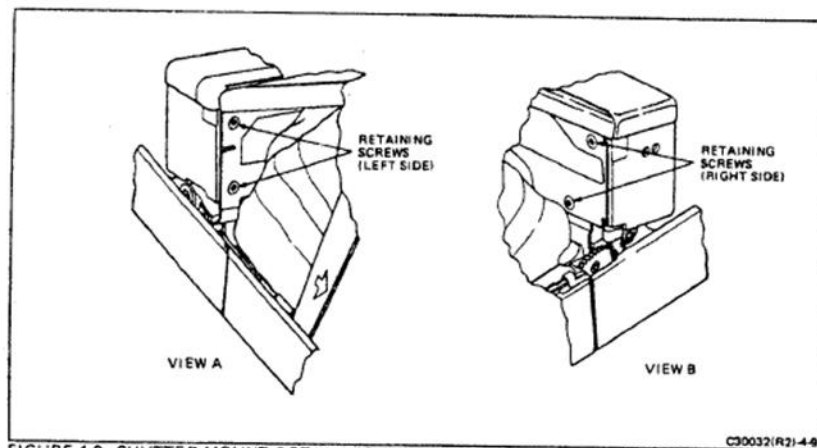

FIGURE 4-9 SHUTTER MOUNT RETAINING SCREWS
8. Remove the four shutter housing retaining screws from the rear of the shutter mounting hinge bracket (see Figure 4-9). (Check for square head or Bristol head screw. Replace with same type.)